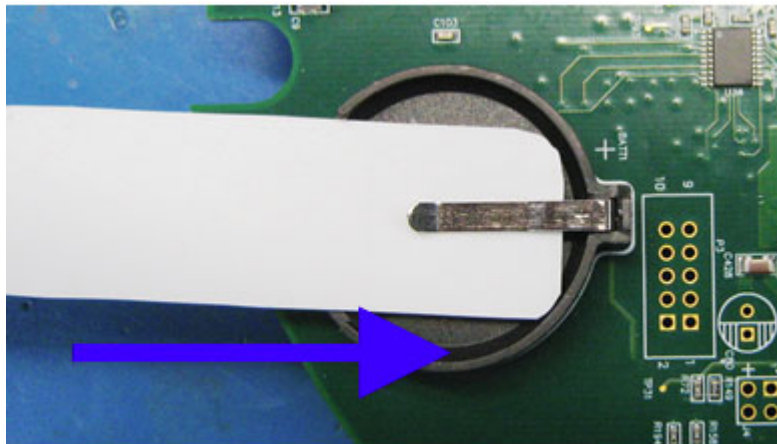

Figure 3-16: Placement of Battery Insertion Tool
- Slide the battery insertion tool between the positive (+) tab and the negative tab (NEG) of the battery holder. See Figure 3-16.